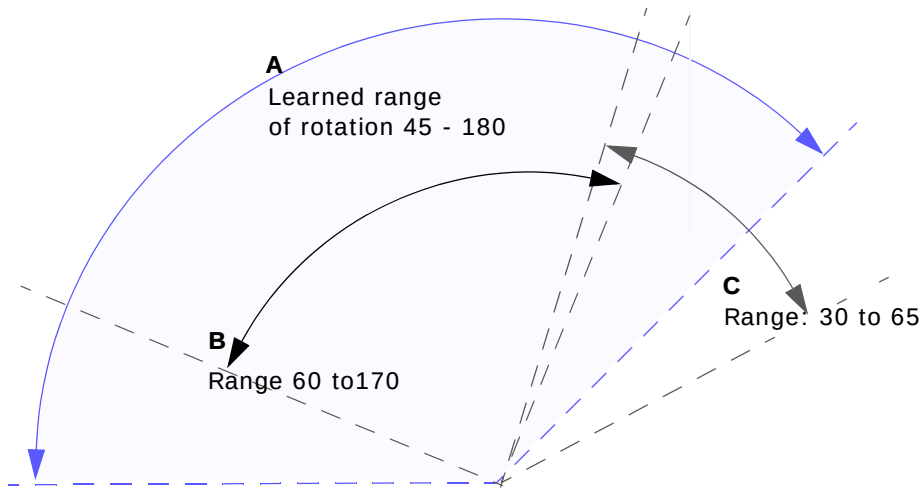

Figure 157 Learned Range of Rotation
- In the example in Figure 157, range “**B**” will be set without a incurring learn. Because range “**C**” lies partially outside the learned range “**A**”, the Locator will automatically learn the new range “**C**” and discard the range “**A**” settings.